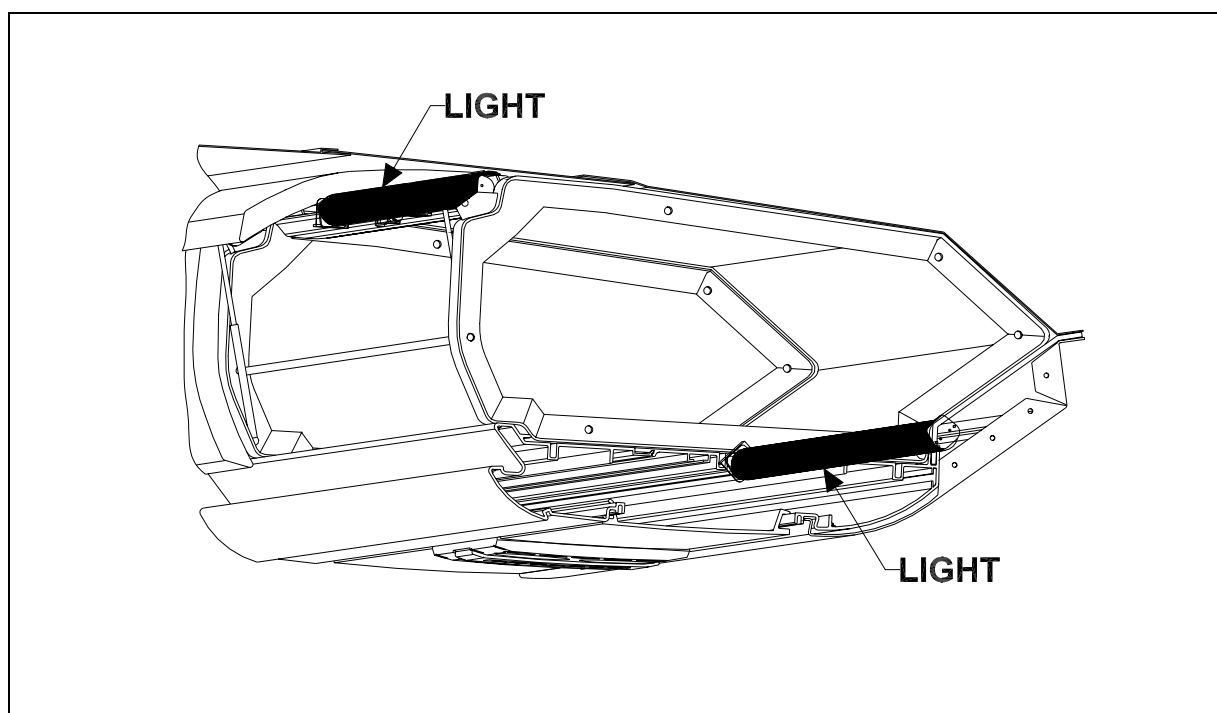

FIGURE 46: PARCEL RACK
4. Lift the hinged cover and replace the two retaining screws (Fig. 46).